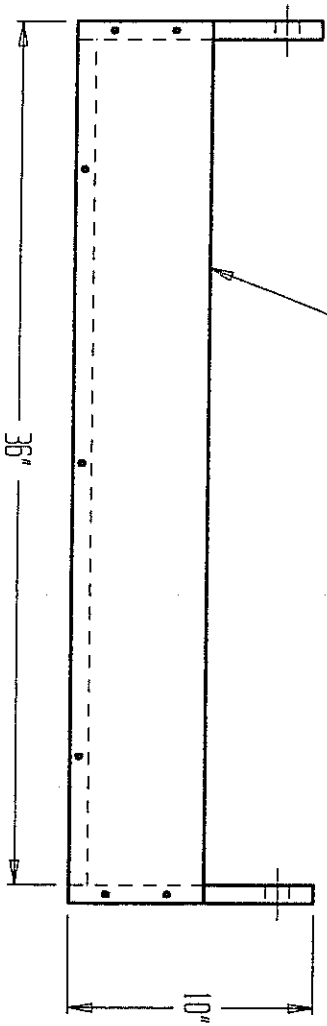

Fig. 2
10. Cut 1 3/4" x 3 5/8" block with a 15 degree angle on one 3 5/8" side. See figure 2.